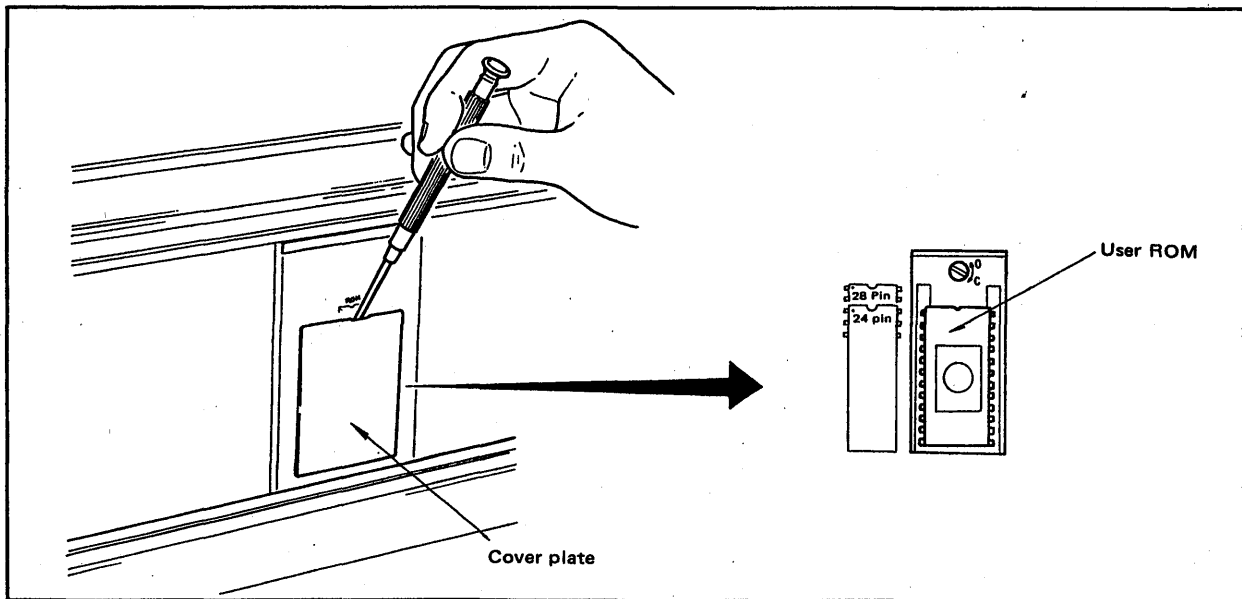

Figure 6-4-2. Removing Tuning Panel Cover Plate and ROM.
- (1) Removing user ROM
- b. Remove the tuning panel cover plate; the user ROM will be exposed. (See Figure 6-4-2.)
- c. Give  $\frac{1}{4}$  turn counterclockwise to the ROM lock section of the ROM socket (Figure 6-4-2).